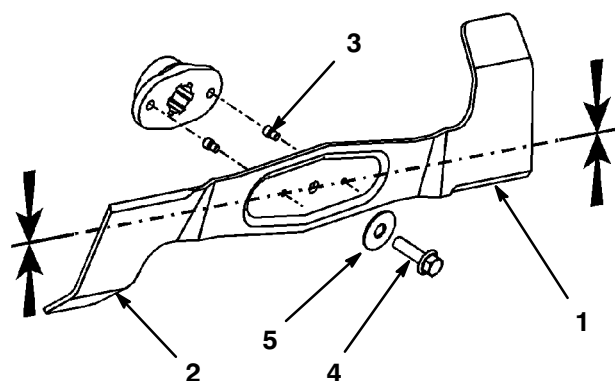

Figure 34
2. Inspect the cutting edges (Fig. 34). If the edges are not sharp or have nicks, remove the blades and sharpen them; refer to Sharpening the Blade(s), page 36.
3. Inspect the blades, especially the bent edges (Fig. 34). If you notice any wear or damage in this area, immediately install a new blade.
4. If the shear pins are broken, replace them immediately (Fig. 34).
3. Remove the bolt, washer and blade (Fig. 34). A block of wood may be wedged between the blade and the mower to lock the blade when you are removing the bolt.
1. Install the blade, washer, and blade bolt (Fig. 34).